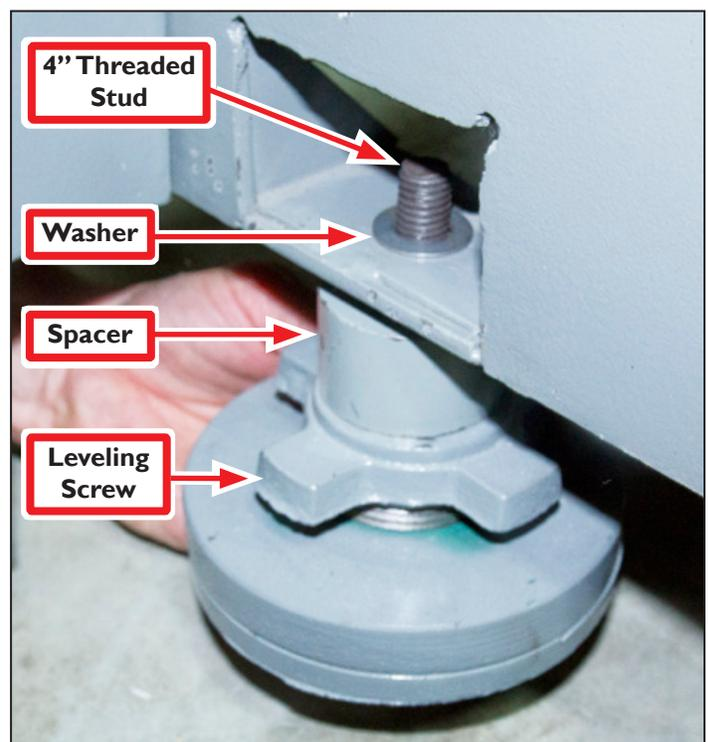

Figure 2.10
3. Insert each lathe foot assembly into base of lathe via a lag bolt hole (see **Figure 2.10**). Slip a Washer onto each Threaded Stud and secure feet tightly with nuts.